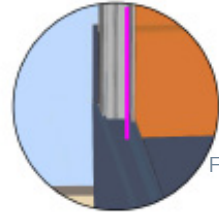

FIG.5
- Align inside of wall channel with inside of glass recess on the interior side of the base. (FIG 5).